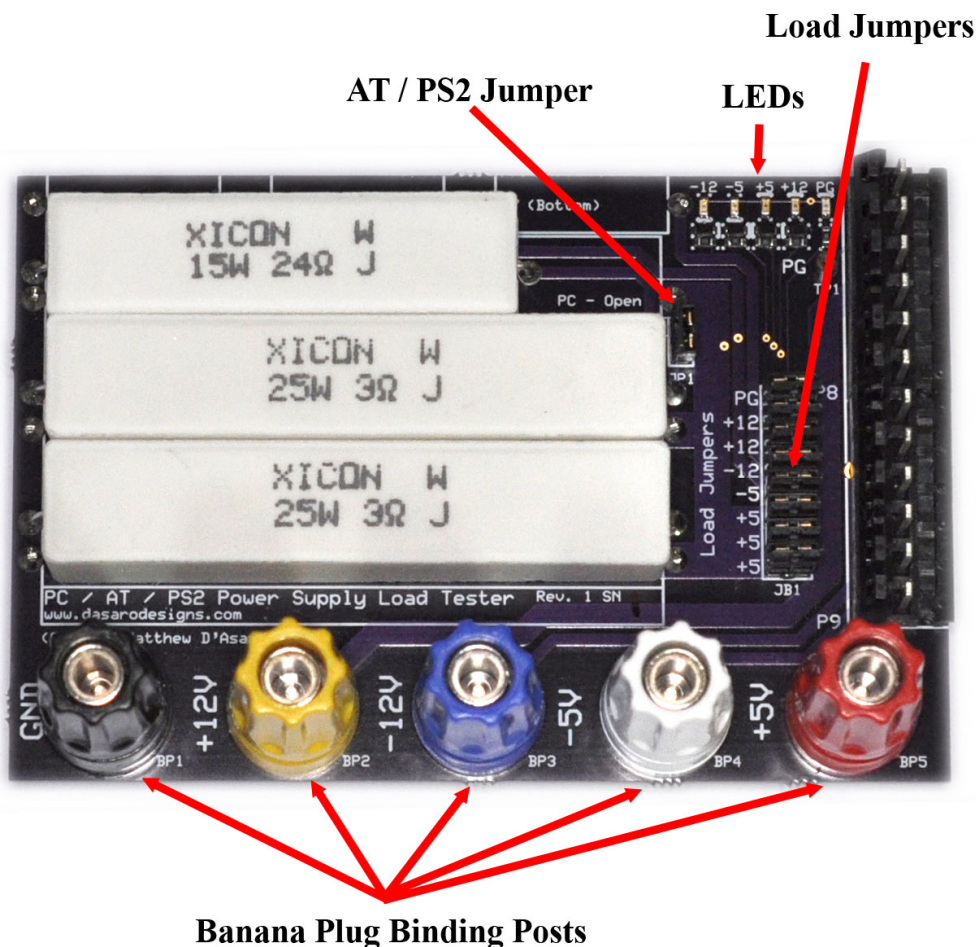
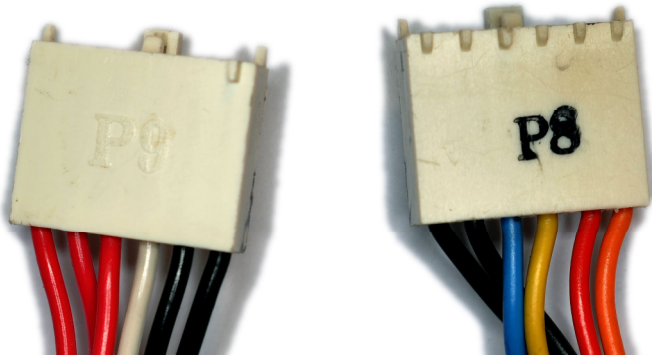

Figure 1: Diagram showing the locations of important feature of the AT PS Test
Figure 2: Example of connectors on power supply compatible with the AT PS Test
The PC / AT / PS2 Power Supply Load Tester (also known as the AT PS Test) is a compact and convenient device which allows for rapid testing of computer power supplies utilizing the connector pinout standard defined with the original IBM PC. This standard was used in the PC, the XT, the AT, some PS/2 systems, and most clones up until around 1995 when the ATX standard became the norm. Power supplies using this standard (and thus compatible with the AT PS Test) are easily identifiable since they utilize two six-pin connectors (usually labeled P8 and P9) placed side-by-side to supply power to the motherboard. See Figure 2. Such supplies will typically not start unless a minimum load requirement is met (this can be quite high - up to ~50% of full load.) Thus, the AT PS Test contains on-board load resistors to provide this load to the supply under test. It also provides status LEDs which indicate the presence of sufficient voltage on each of the rails as well as the presence of the 'Power Good' signal from the supply. In addition, the AT PS Test has banana plug binding posts for each supply rail and jumpers to disconnect the on-board load resistors, allowing it to serve as a break-out box for testing power supplies with an external electronic load. Figure 1 (below) shows an overview of the components on the AT PS Test.
- 3) Connect the 'P8/P9' motherboard connectors from the power supply to the AT PS Test. **BE SURE TO CONNECT THEM SUCH THAT THE BLACK (GROUND) WIRES ARE ADJACENT TO EACH OTHER AS SHOWN IN FIGURE 2 TO AVOID DAMAGE TO THE POWER SUPPLY.** Remember: "black to black" or smoke and sparks!